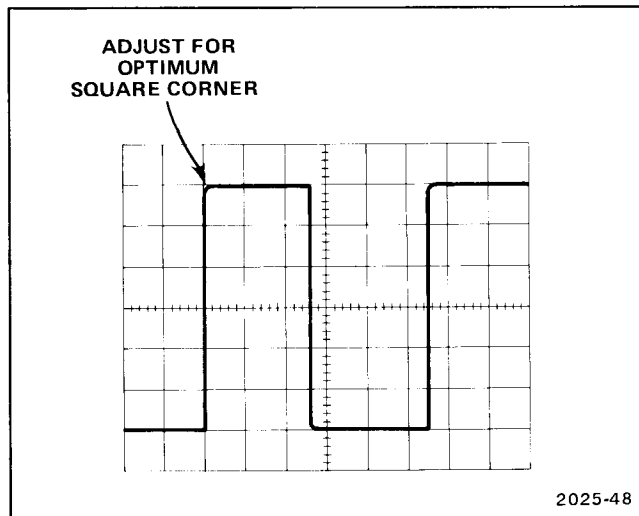

Figure 6-3. Typical crt display for adjustment of vertical (Y) compensation and output gain.
f. ADJUST—C193 (Y High Freq Comp) for optimum square corners (see Fig. 6-3). Use a low-capacitance screwdriver.